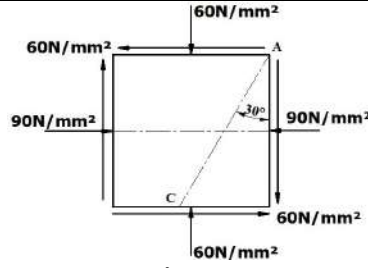

Figure 15
13. The state of stress in two dimensional stressed body is shown in **Figure 15**. Determine principle stresses, principle planes and maximum shear stress. Determine also the normal and tangential stresses on Plane AC. Verify the results by drawing Mohr's circle.